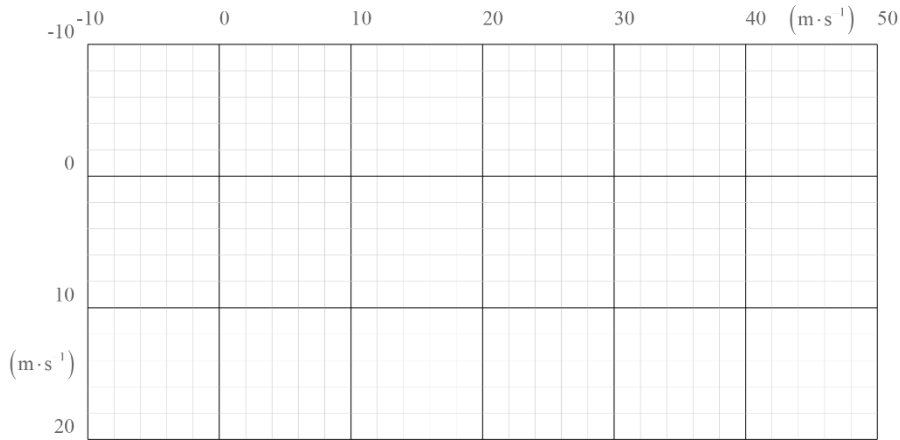

Figure 1: Velocity diagram at the turbine inlet (top) and outlet (bottom).
- 8) Sketch properly the inlet and outlet velocity diagrams. Use the grid provided in Figure 1.